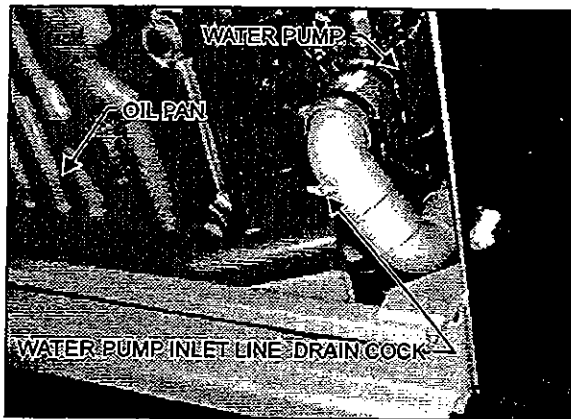

Figure 8: View From Under the Vehicle 05028
4. Open the water pump housing inlet line drain cock (Fig. 8).
5. Open the drain cock at the bottom of the thermostat housing to drain the coolant trapped above the thermostats (Fig. 8).